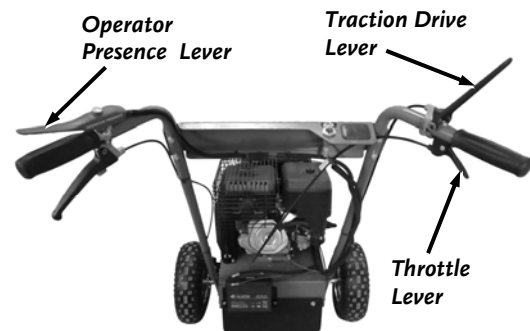

Figure 29
3. Press the Traction Drive Lever to the Handlebars and Slowly press the Throttle Lever to move the machine forward (**Figure 29**). The more you press the Throttle Lever to the Handlebar, the faster the machine will travel.